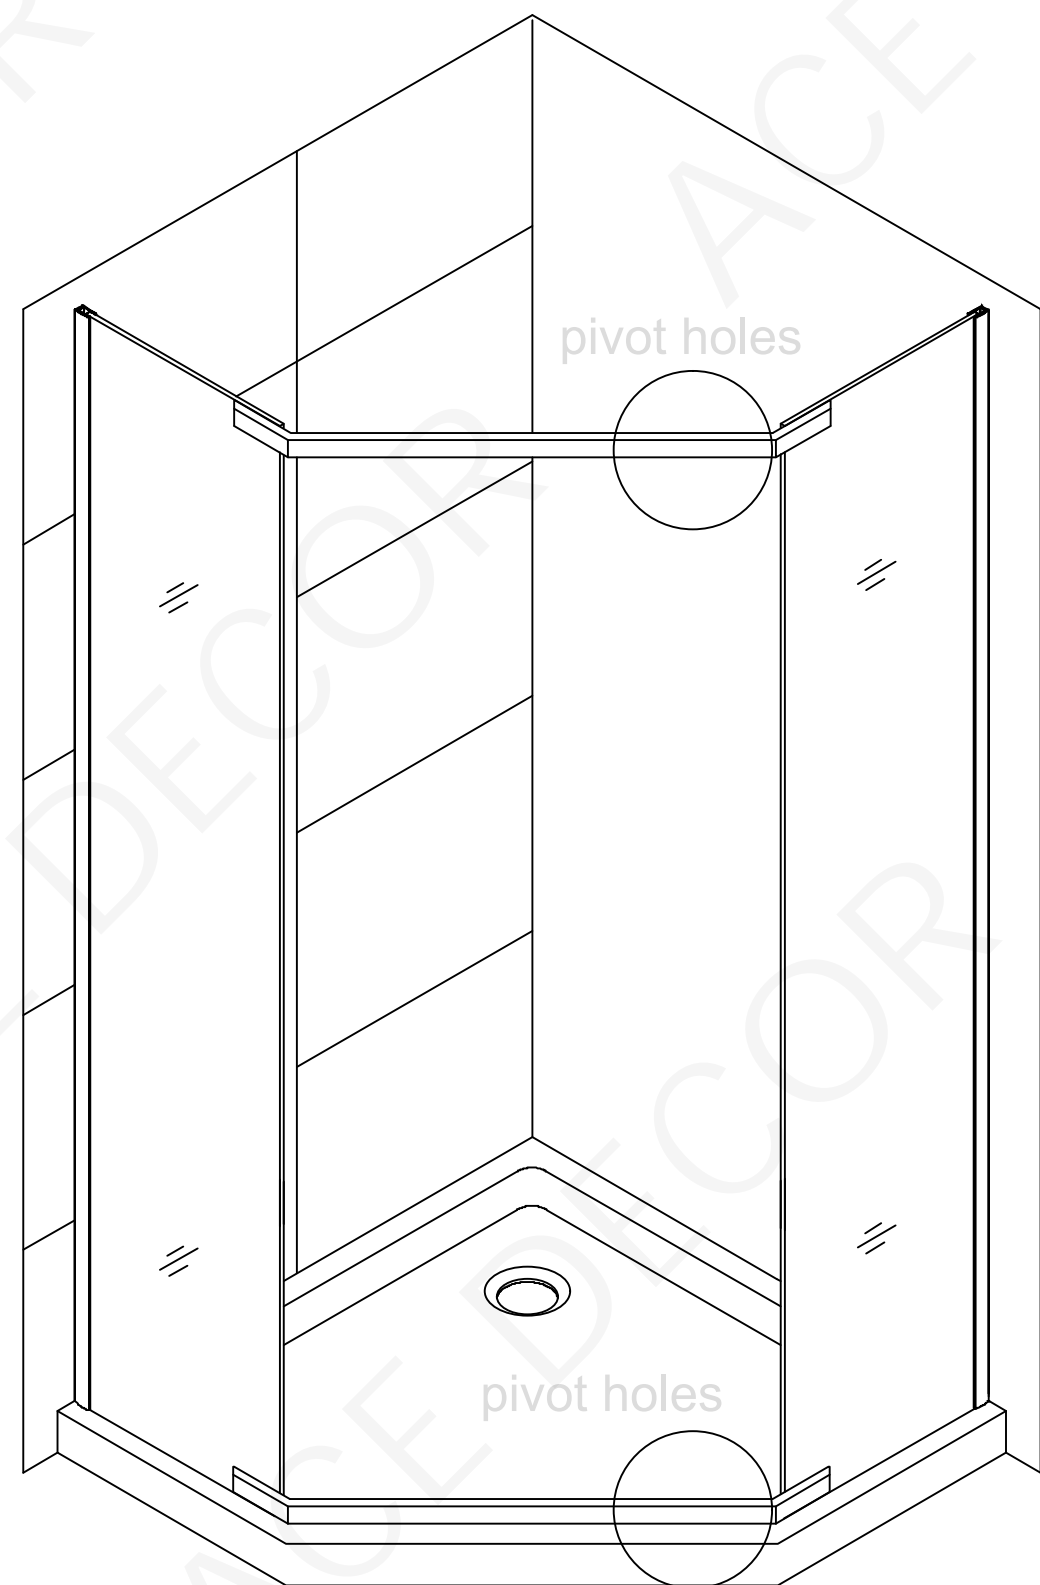

Fig 4b
Examine the **Pivot Bar (A)** and notice that there are holes for the top and bottom pivot assemblies on one end. (Fig 4b)